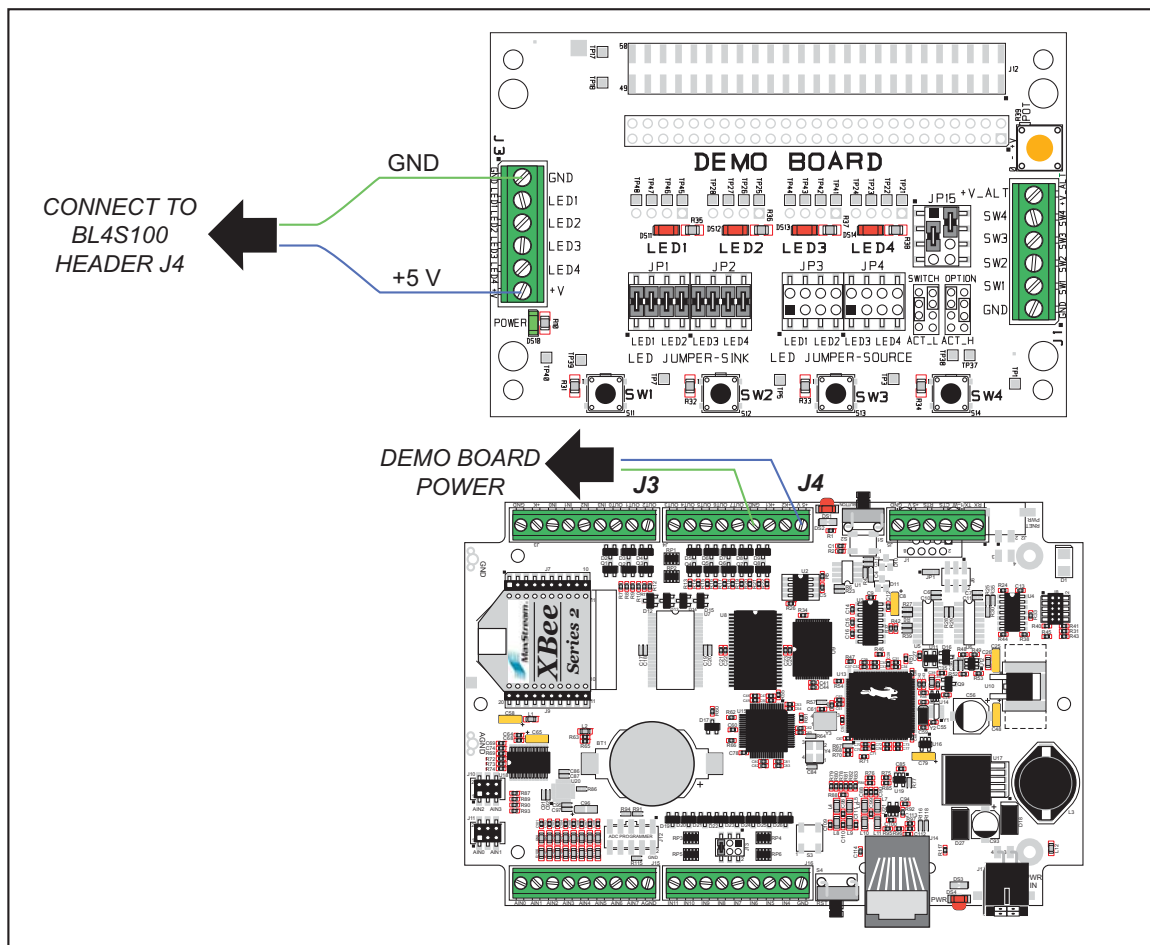

Figure C-1. Power Supply Connections Between BL4S100 and Demonstration Board
1. Use wires to connect screw-terminal header J3 on the Demonstration Board to header J4 on the BL4S100. The connections are shown in Figure C-1, with the green wire to GND and the blue wire to +V.